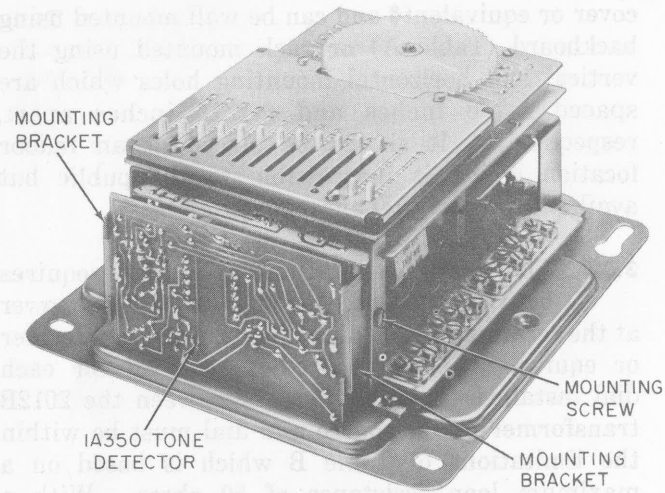

Fig. 3—1A350 Tone Detector, Installed
**3.05** The 1A350 tone detector circuit board is added to the basic 43A dial in the position shown in Fig. 3. Use brackets and mounting screws furnished with detector to fasten board as described in detailed instruction sheet packed with each detector. Table D gives spade-tipped lead connections. References to a call button may be disregarded when the 1A350 tone detector is used unless both are desired.